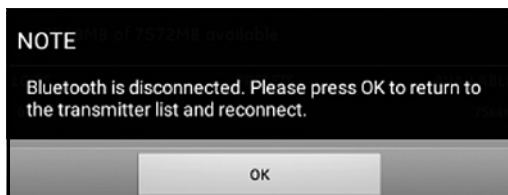

Figure 109: Transmitter Reconnection Screen
6. After the transmitter reboots, the message shown in *Figure 109* below will pop up. Click the **OK** button to reconnect the transmitter.